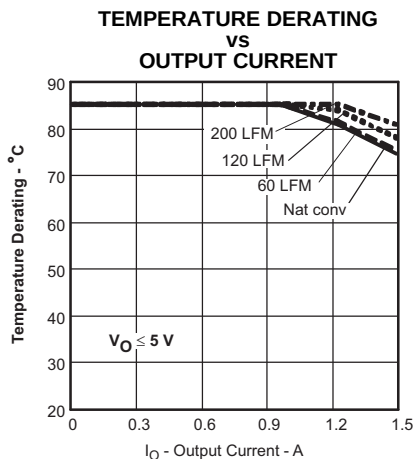

Figure 8.
- (2) The temperature derating curves represent the conditions at which internal components are at or below the manufacturer's maximum operating temperatures. Derating limits apply to modules soldered directly to a 100-mm x 100-mm, double-sided PCB with 2 oz. copper. For surface mount packages, multiple vias (plated through holes) are required to add thermal paths around the power pins. Please refer to the mechanical specification for more information. Applies to Figure 8 and Figure 9.